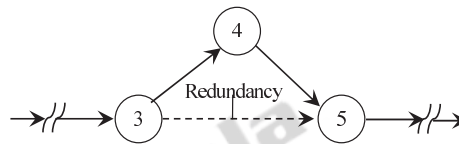

Fig. 1.7: Redundancy
3. **Redundancy** - If a dummy activity is inserted in a network unnecessarily then that error is called redundancy error as shown in figure 1.7.